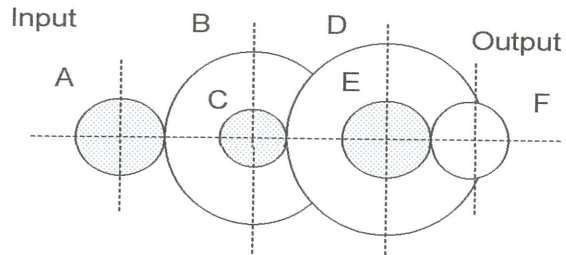

FIGURE Q1
Q1 Fuzzy control system is applied to control arm robot gripper position by controlling input voltage of the motor. Motor has function as an actuator of the robot gripper. The type of fuzzy control system is Sugeno type. Fuzzy control system has two inputs: error (e) and change in error (Δe), and output is the input voltage of the motor. Error and change in error have same fuzzy sets as in Figure Q1. Fuzzy output sets consist of Negative Big (NB), Negative Medium (NM), Negative Small (NS), Zero (Z), Positive Small (PS), Positive Medium (PM), Positive Big (PB) and position at -6, -4, -2, 0, 2, 4 and 6 respectively. Rule tabulation of fuzzy control system is represented in Table Q1. If error (e) and change in error (Δe) values are -1.5 and 2.2 respectively: